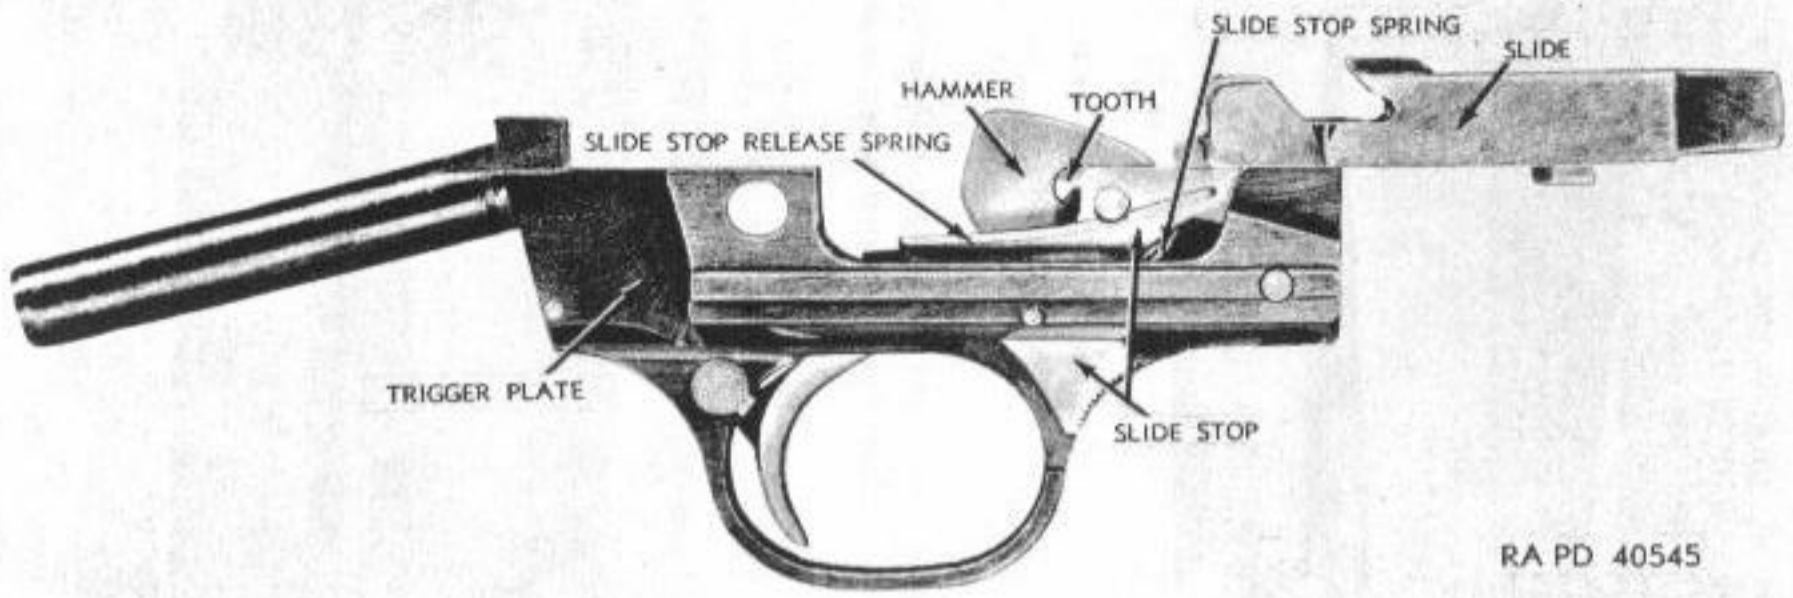

Figure 61—Slide and Trigger Plate Groups—Slide Riding Over Stop—Hammer Locked—Ithaca Shotgun M37
e. As the hammer reaches the extreme rearward position, a lug on the hammer is caught and held by a hook on the slide stop, and is so held until the slide nears the forward position and the breechblock has been cammed up in front of the locking shoulder in the top of the receiver (fig. 61). At this point, about 1/4 inch from the extreme forward position of the slide, the slide cams the stop from engagement with the hammer and the sear immediately engages and retains the hammer in the cocked position, thus preventing premature firing of the gun.